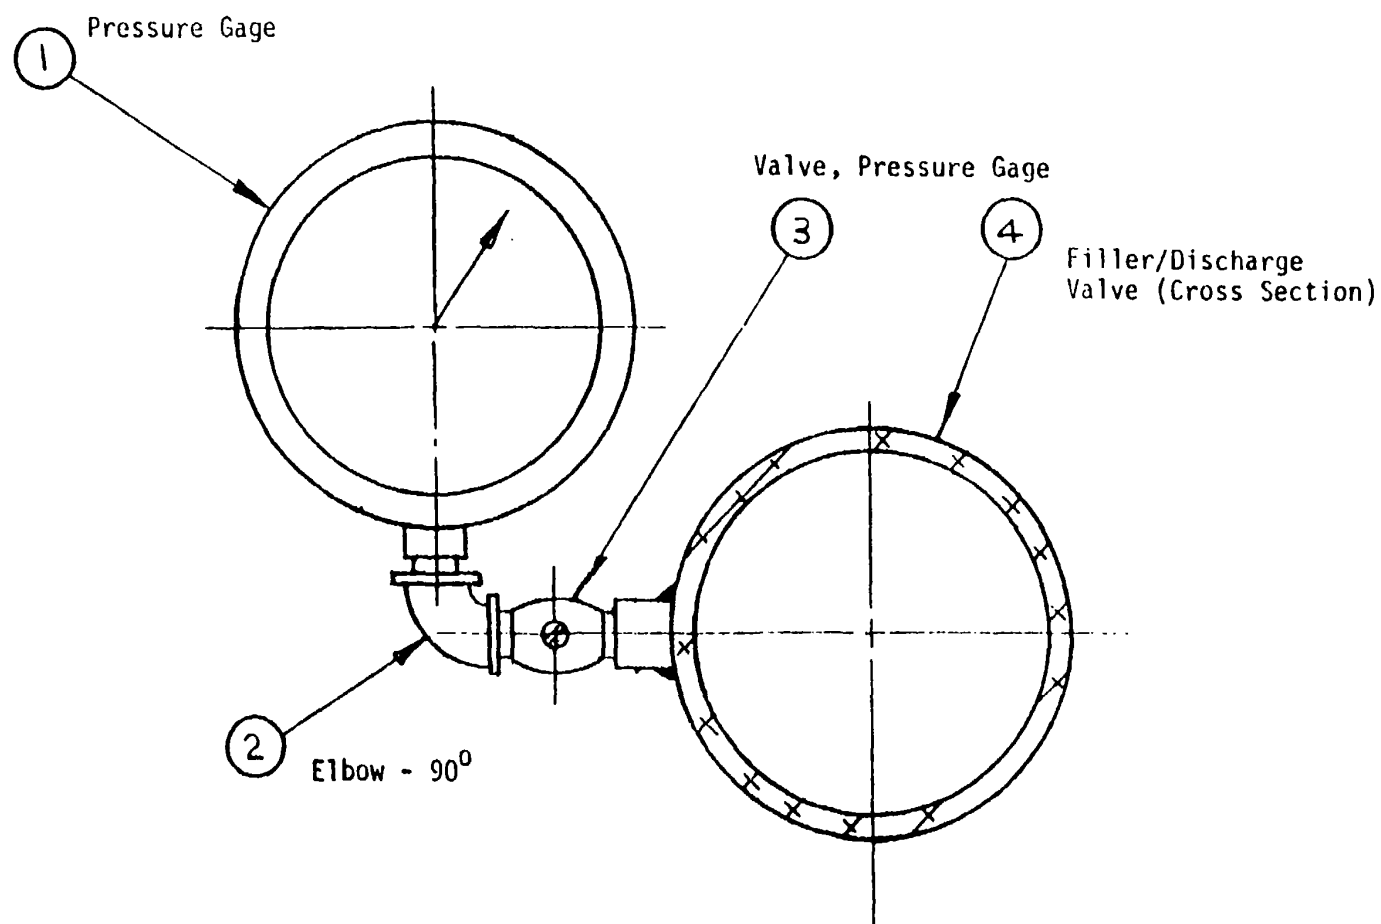

Figure 2-4. Pressure Gage Assembly
A 0-15 PSI pressure gage is supplied to monitor the pressure of the filled tank. Operating pressure is 4 to 6 PSI. See Item 1, Fig. 2-4.
The pressure gage is controlled by a 1/4 NPT valve. The valve is to be closed when the pressure gage is removed. See Item 3, Fig. 2-4.
- c. Attach the pressure gage to the filler/discharge valve as shown in Fig. 2-4. Open the pressure gage valve. (3, Fig. 2-4).
- o. Keep pressure gage valve (3 Fig. 2-4) open to allow continual observation of tank pressure.